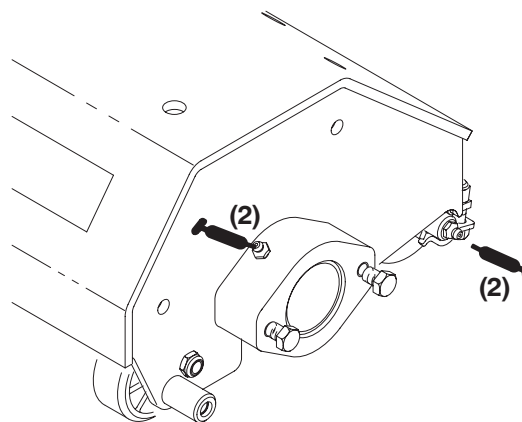

Figure 11
2. Apply grease to the spiker shaft bearings and rear roller bearings (Fig. 11) until pressure is felt.